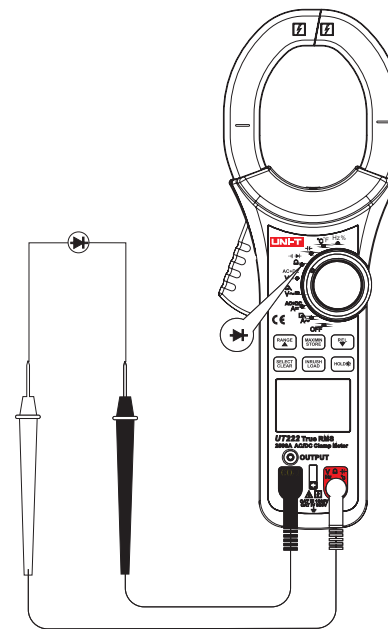

Figure 8
5. Diode measurement \rightarrow (See Figure 8)